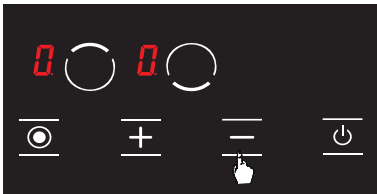

Figure 22
- Press the **⊖** key again. (see Fig. 22) This shall be performed right after the 2nd step. Child lock is deactivated permanently. In other words, child lock shall continue to be deactivated even if the unit is turned off and on again.